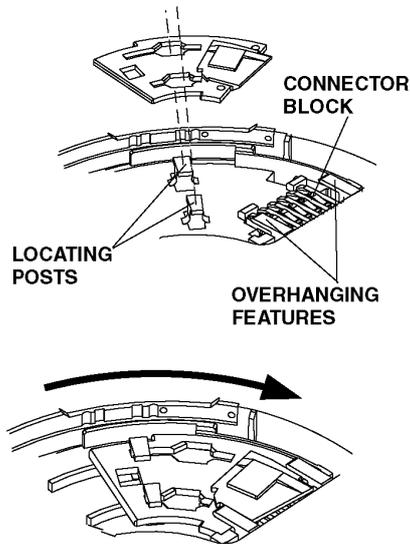

Fig. 6
- f) For a Minerva system, fit the address smart card to the detector, see Fig. 6.